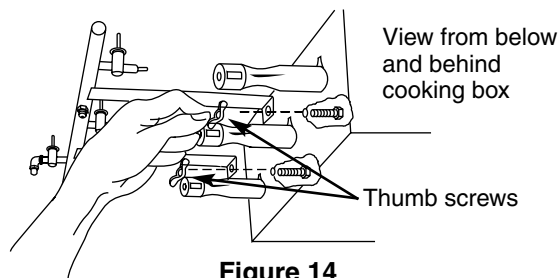

Figure 14
- Remove the manifold bracket and unscrew the two thumb screws that hold the manifold to the cooking box. Pull the manifold and valve assembly out of the burners and carefully set it down. Figure 14.